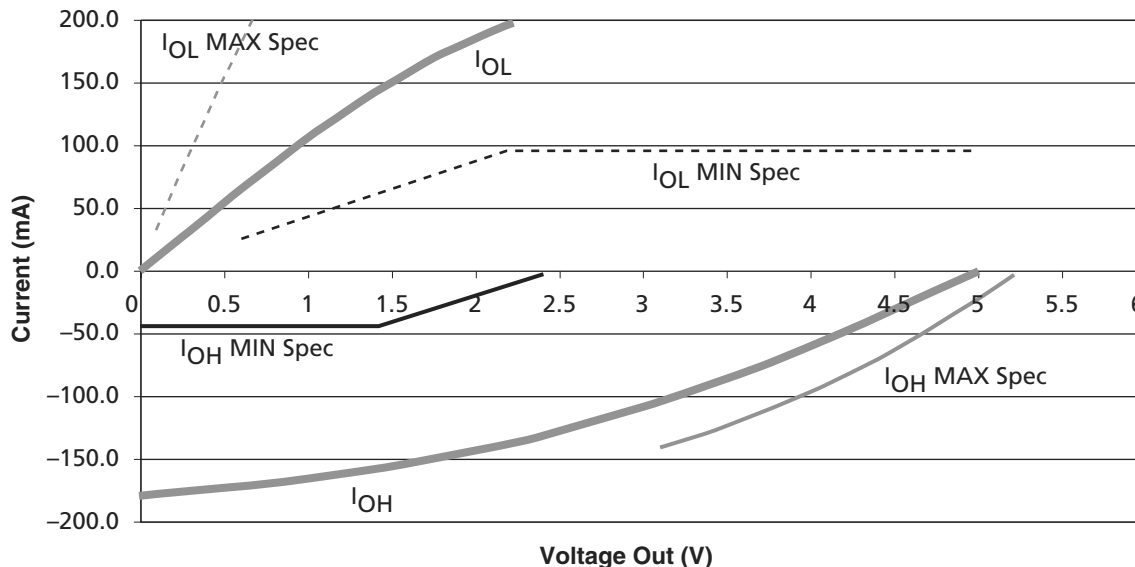

Figure 2-1 • 5 V PCI V/I Curve for SX-A Family
1. Refer to the *V_I* curves in Figure 2-1 on page 2-5. Switching current characteristics for REQ# and GNT# are permitted to be one half of that specified here; i.e., half size output drivers may be used on these signals. This specification does not apply to CLK and RST#, which are system outputs. “Switching Current High” specifications are not relevant to SERR#, INTA#, INTB#, INTC#, and INTD#, which are open drain outputs.
3. Maximum current requirements must be met as drivers pull beyond the last step voltage. Equations defining these maximums (A and B) are provided with the respective diagrams in Figure 2-1 on page 2-5. The equation defined maximum should be met by design. In order to facilitate component testing, a maximum current test point is defined for each side of the output driver.
Figure 2-1 shows the 5 V PCI V/I curve and the minimum and maximum PCI drive characteristics of the SX-A family.